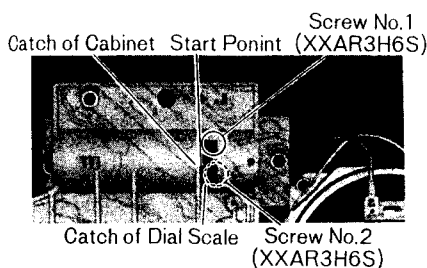

Fig. 10
4. After mounting the PC board (IF, RF circuit), turn the dial scale by pushing the catch of dial scale and set the start point of dial scale to the catch of cabinet, as shown in fig. 10.
5. Tighten the two (2) screws (nos. 1 & 2) for the dial scale gear, as shown in fig. 10.